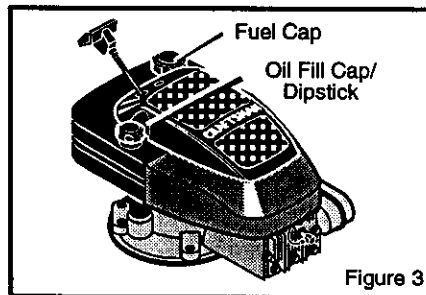

Figure 3
1. Remove the oil fill cap/dipstick shown in Figure 3. Fill the crankcase to the FULL line on oil fill cap/dipstick. **DO NOT OVER-FILL.**